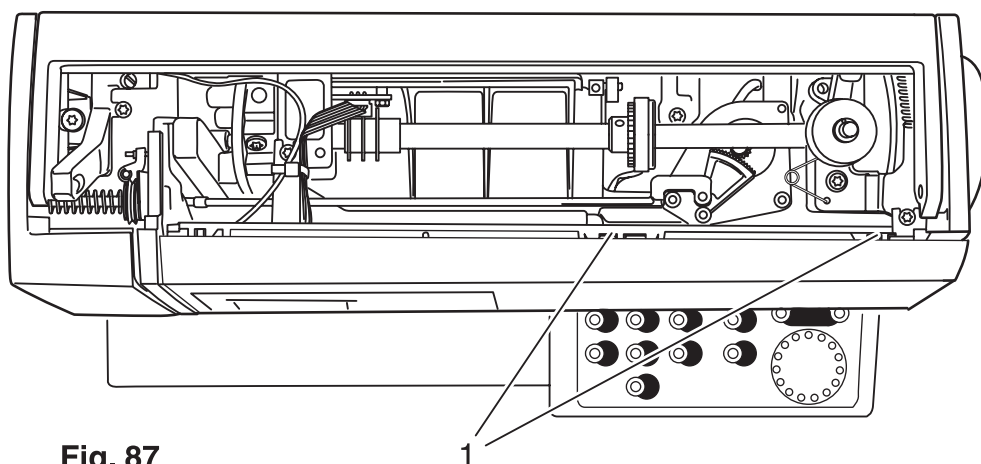

Fig. 87
- Mount the facing panel onto the front housing panel, making sure that both lugs 1 lock into place (fig. 87).